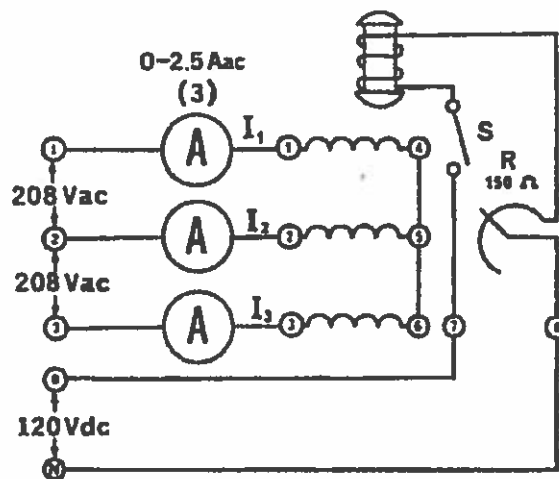

Figure 27-1.
1. Because of its constant running speed, the synchronous motor will be used to mechanically drive the DC generator. Using your Power Supply, AC Ammeter and Three-Phase Synchronous Motor/Generator, connect the circuit shown in Figure 27-1.